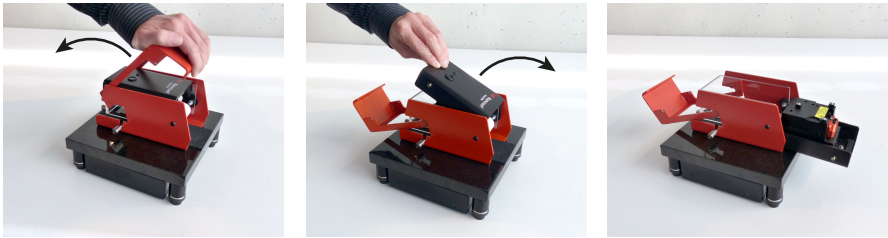

Figure 3-3: Unlocking and opening the NaioAFM scan head. (Left) Unlocking. (Middle) Opening. (Right) Ready for cantilever exchange.
- ➔ Grab the NaioAFM's locking handle and pull it over to the other side (see *Figure 3-3: Unlocking and opening the NaioAFM scan head*, Left).
- 1 Put the scan head upside-down by flipping over the scan head cover (see *Figure 3-3: Unlocking and opening the NaioAFM scan head*, Center and Right).